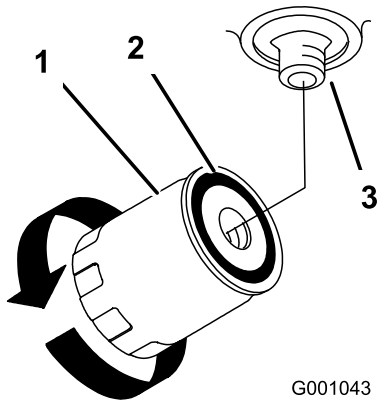

Figure 43
4. Locate the hydraulic filter under the engine base and place a drain pan under the filter (Figure 43).
5. Remove the old filter and wipe the filter-adapter gasket surface clean (Figure 43).
9. When the hydraulic filter is full, turn the hydraulic filter clockwise until the rubber gasket contacts the filter adapter; then, tighten the filter an additional 1/2 turn (Figure 43).